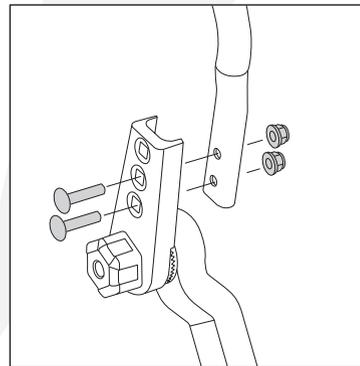

Fig. 4
2. There are two selectable positions, with the ability to move up or down for adjustment. Secure the two bolts either in the upper or lower position. (Fig.4)